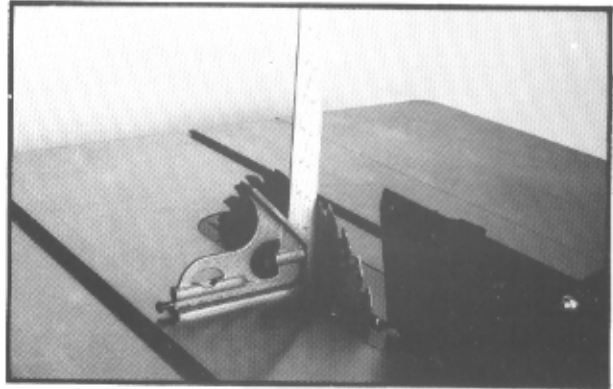

Fig. 11
4. Place a square on the table and check to see that the blade is at a 90° angle to the table. (Fig. 11) Make sure square is not touching a blade tooth.